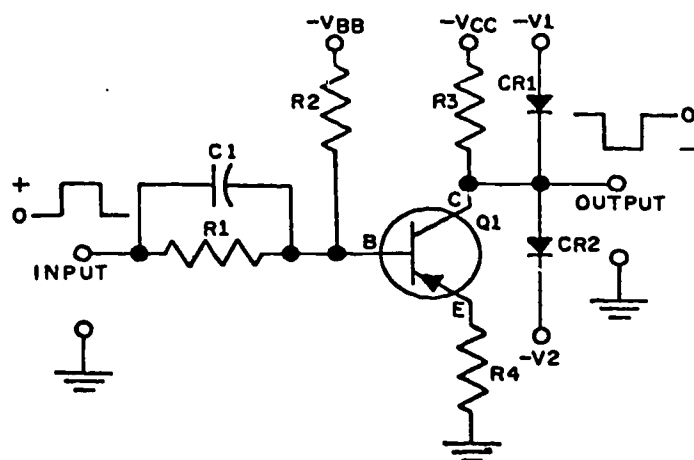

Figure 1-44. Diode transistor inverter.
Figure 1-44 is the schematic of a typical diode transistor inverter circuit. The advantage of this inverter circuit over those previously discussed is increased operating (switching) speed. Switching speed is increased by using the clamping action of the diodes to limit signal excursion in the output.
2. In figure 1-44, what is the purpose of C1?
4. In figure 1-44, what is the purpose of R4?